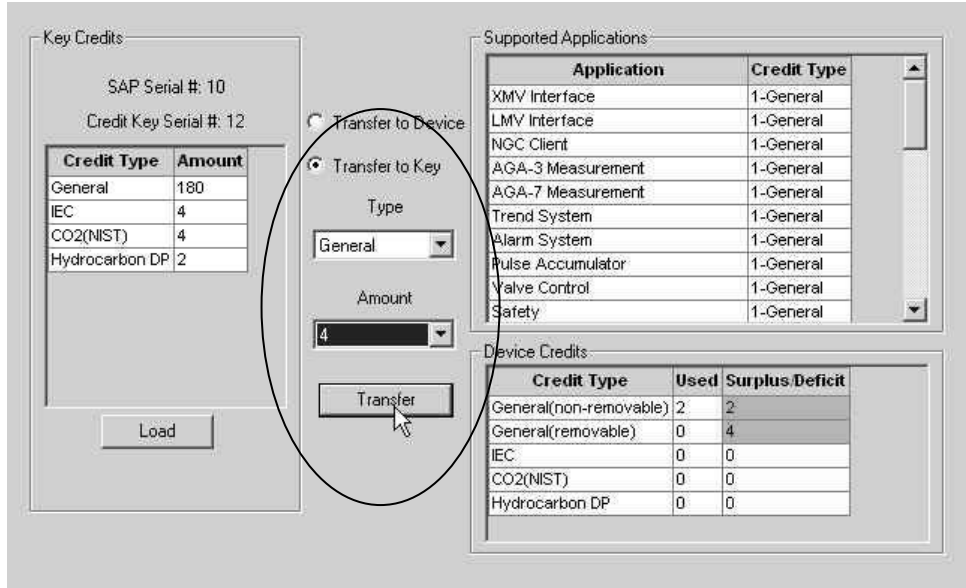

Figure 81 Transfer to Credit Key Application Credit Selections
7. Select **Transfer to Key**, located in the center of the screen (see Figure 81).